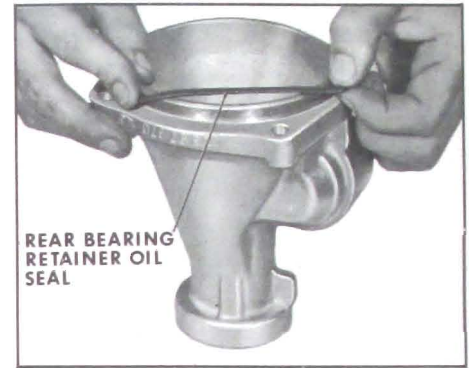

Figure 5-330
1. Install rear bearing retainer oil seal. See Figure 5-330.
2. Install rear bearing retainer to case and install four (4) retaining bolts, using a 9/16" socket.